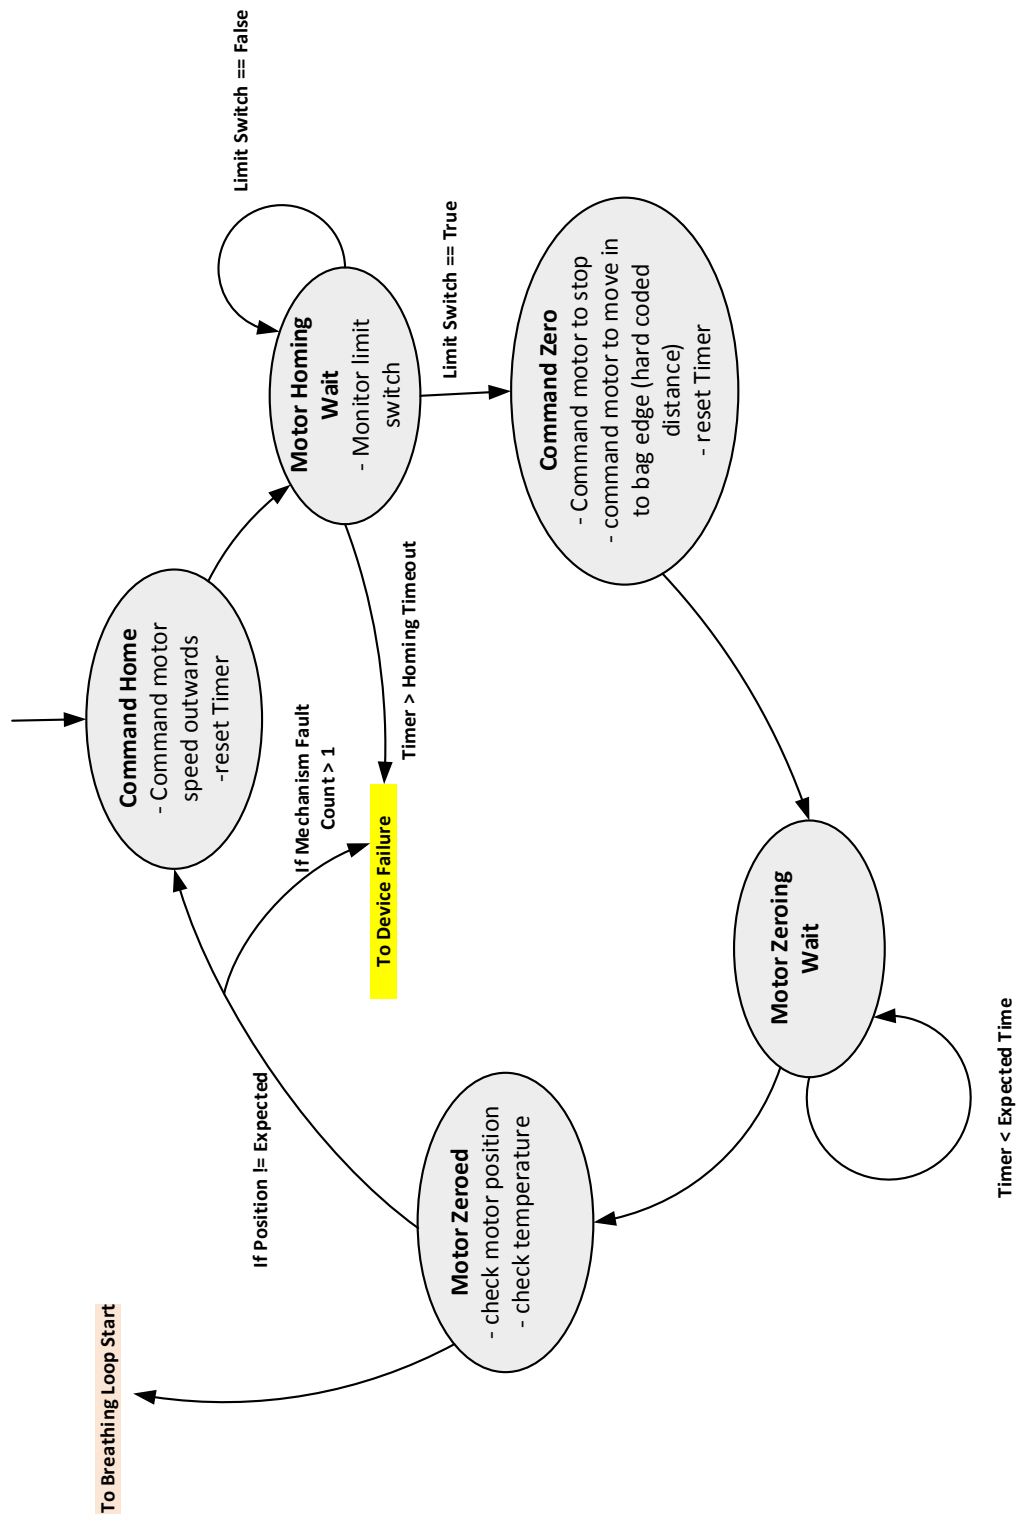

Figure 3: Motor Zeroing State Flow Diagram
2. The motor homing and zeroing (calibration) state flow diagram is shown in Fig. 3.